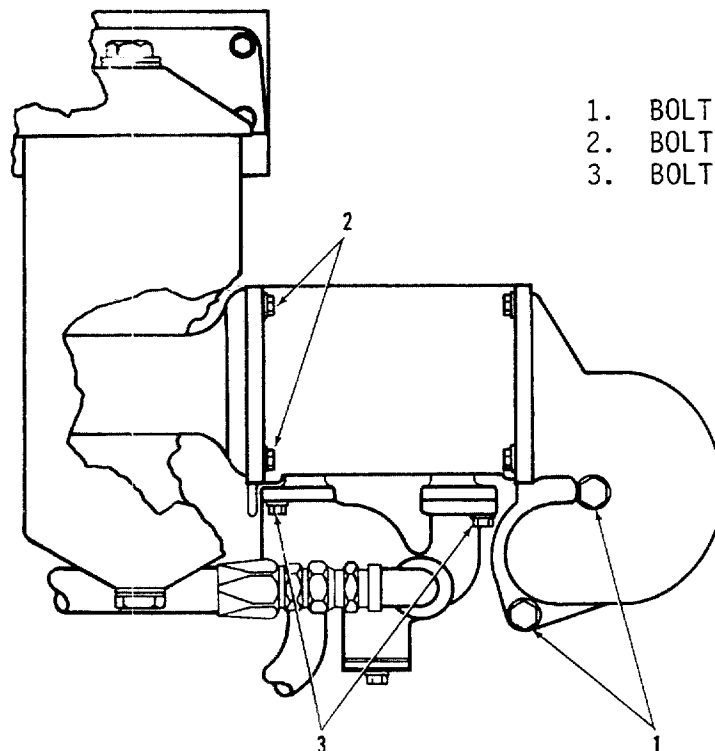

Figure 4-65. Oil Cooler, Replacement
(1) Drain coolant into a suitable container and preserve coolant for reuse. Remove coolant drain hose from oil cooler.
(2) Remove two bolts (1, figure 4-65) which hold oil cooler to cylinder block.
(3) Remove four bolts (2) which hold oil cooler to coolant inlet line.
(4) Remove four bolts (3) which hold oil cooler to bypass.
(5) Install oil cooler and secure to bypass with four bolts (3).
(6) Install four bolts (2) which secure oil cooler to coolant inlet line.
(7) Install two bolts (1) which secure oil cooler to cylinder block.
(8) Install coolant drain hose. Close coolant drain and refill cooling system in accordance with paragraph 3-14c.